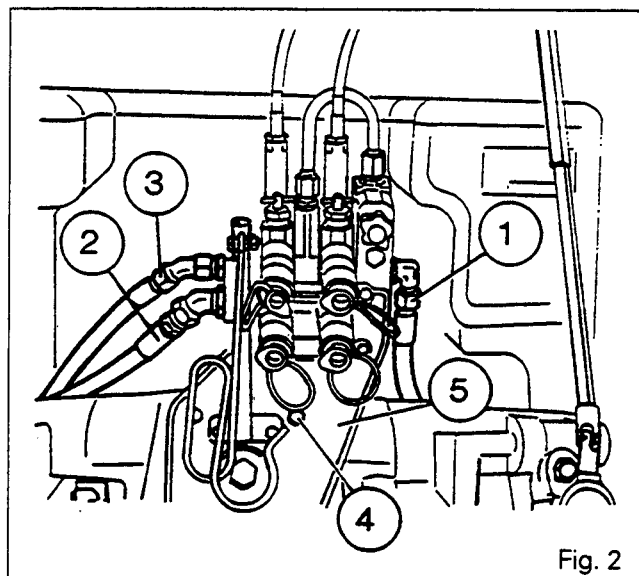

Fig. 2
4. Disconnect (Fig. 2) :
- the supply hose (1) to the spool valve
- the supply hose (3) to the lift valve
- the return hose (2).
5. Remove the bolts (4) for the spool valve support (5) (Fig. 2).